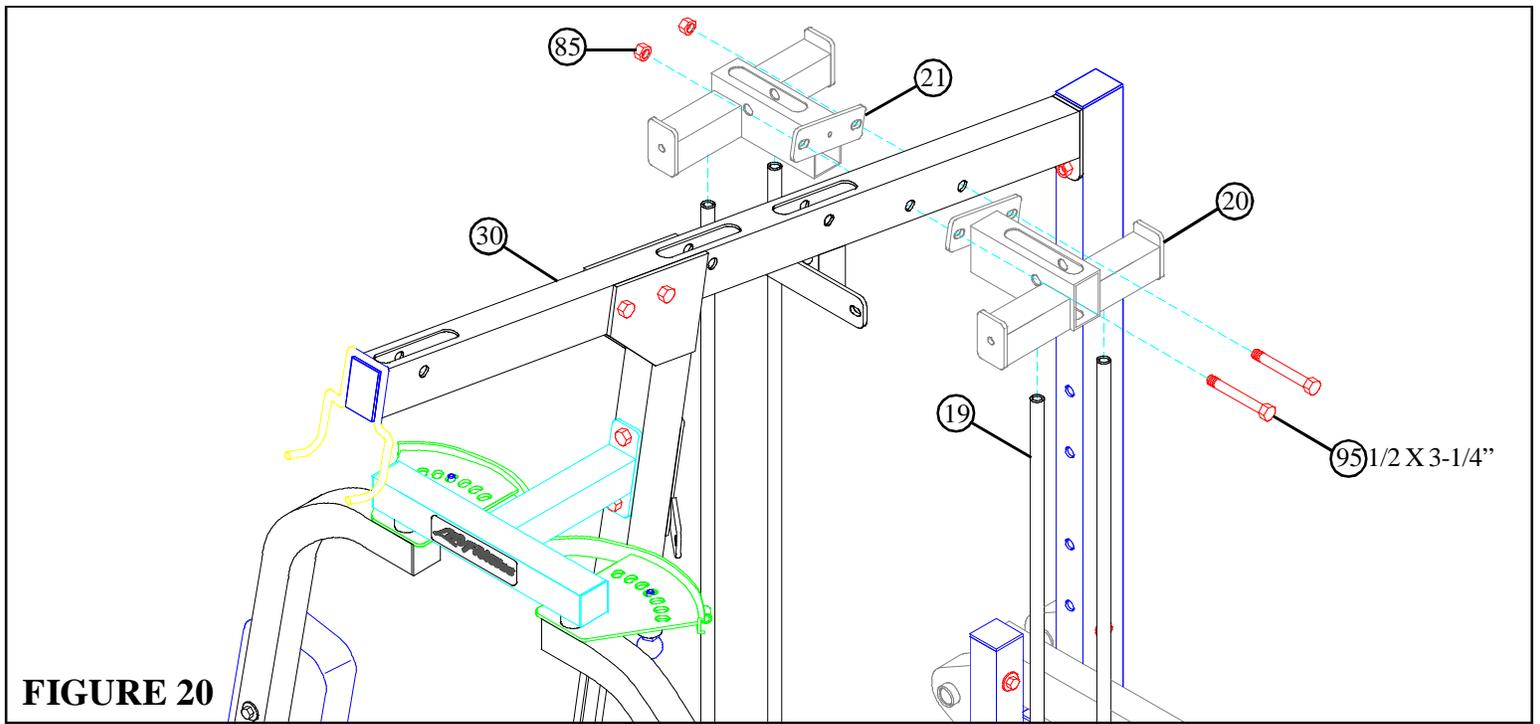

FIGURE 20
- Slide the PRESS GUIDE ROD SUPPORT (20) and LEG GUIDE ROD SUPPORT (21) over their respective GUIDE RODS (19) and **SECURELY** assemble them to the TOP BOOM (30) using two 1/2 X 3-1/4" BOLTS (91) and two 1/2" LOCK NUTS (85) as shown in FIGURE 20.